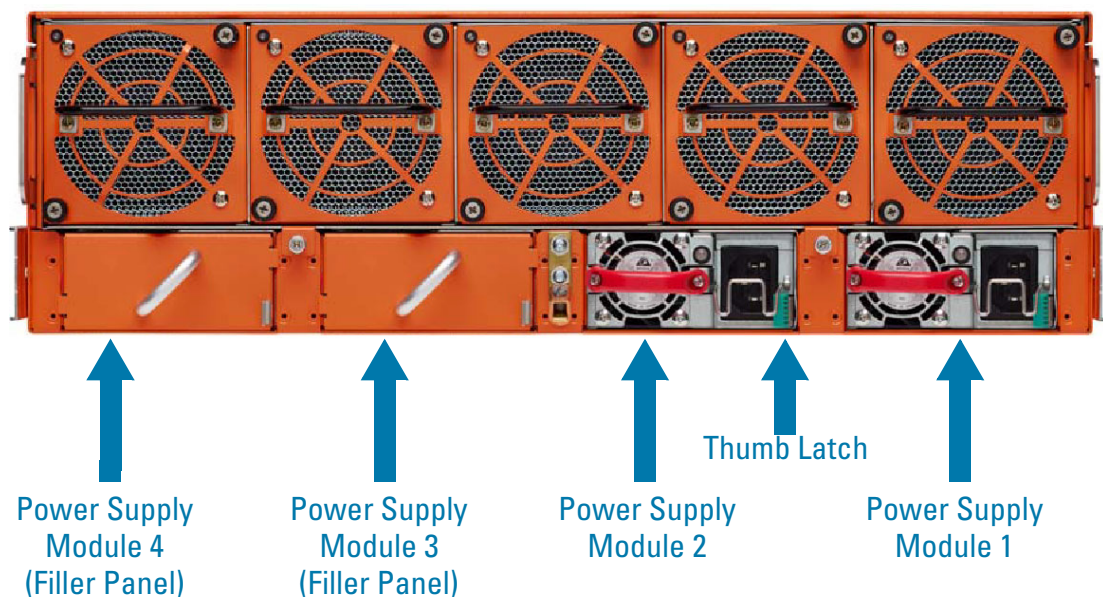

Figure 3-5: Power Supply Modules (AC Version Shown)
3. Carefully slide the first PSM into the matching receptacles at the lower rear of the node (Figure 3-5 on page 56). Push gently to seat the PSM firmly in the chassis until the thumb latch snaps into place.
NOTE: If using two PSMs, leave filler panels in as shown in Figure 3-5. The filler panels aid in air flow distribution. If a PSM fails, leave it in the chassis.